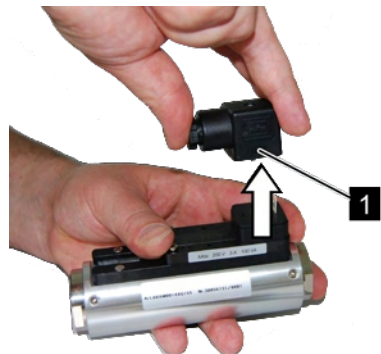

Fig. 21: Remove socket
2. Remove the socket (Fig. 21/1)